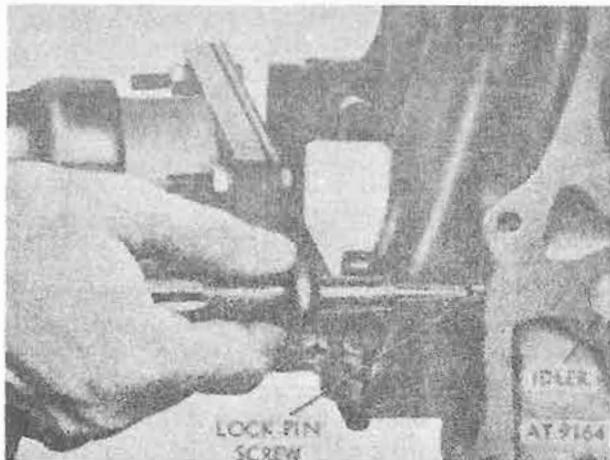

Figure 8-31. Countershaft and idler shaft lock-pin screw.
d. Remove two countershaft lockpin screws (fig. 8-31).